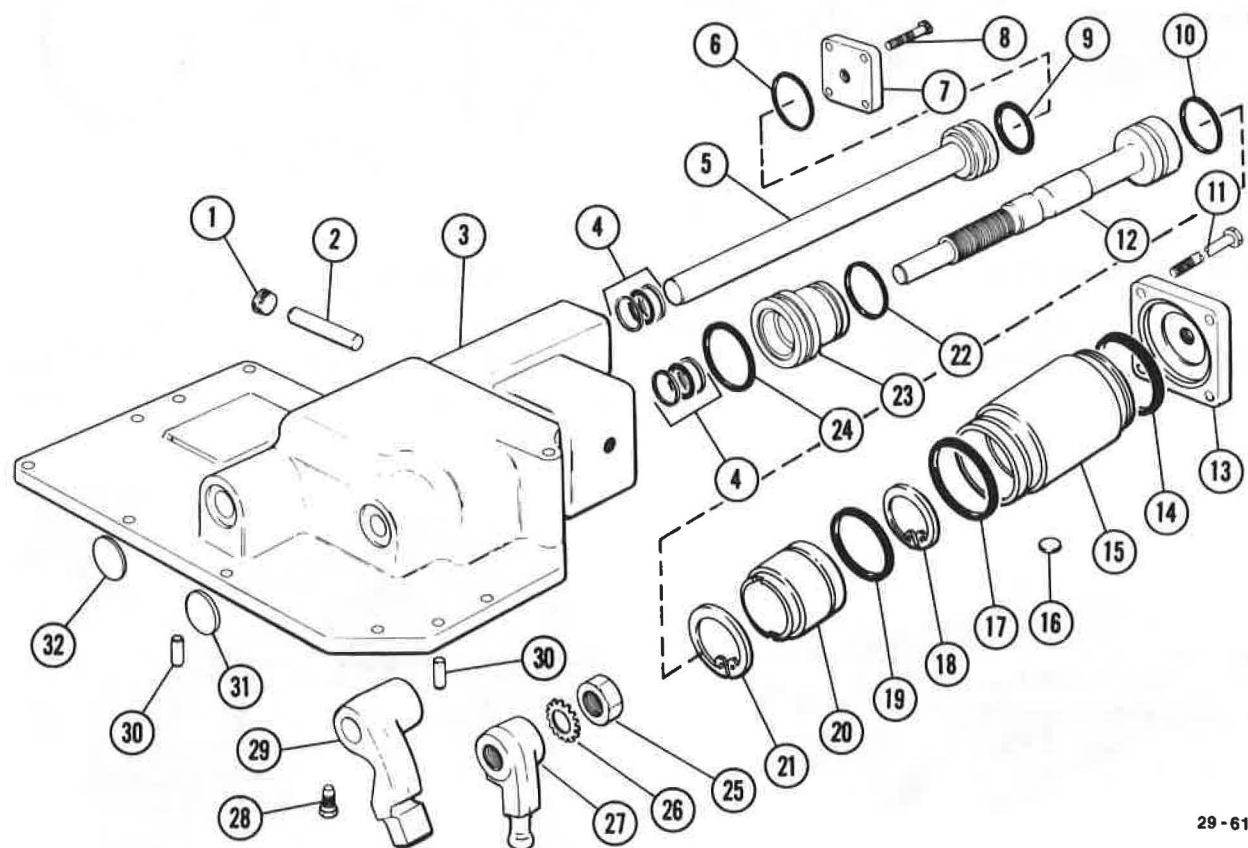

Figure 5-347. Air Breather
24. Clean air breather in Lo/Direct shift cylinder. See Figure 5-347.